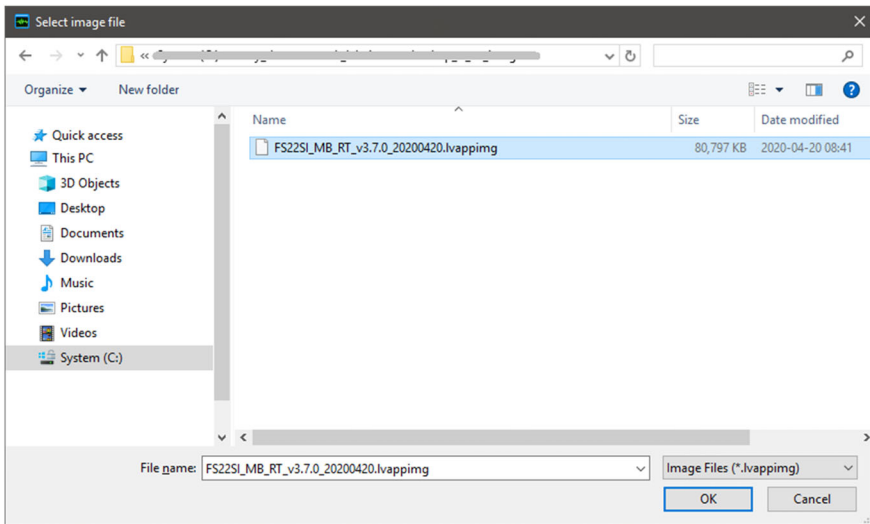

Fig. 7.39 Firmware update
- ▶ Select the file on the pop up of the Select Image File interface (see Fig. 7.39).